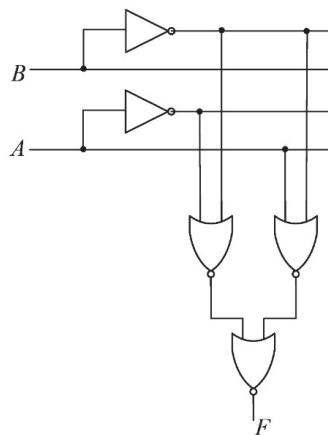

Fig. 3.9
22. The logic block shown in Fig. 3.9 has an output F given by _____.